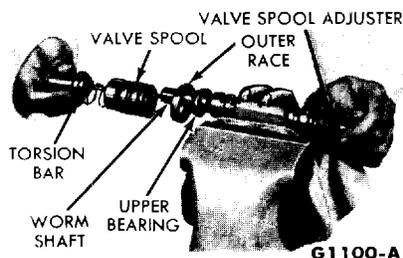

FIG. 14—Valve Spool Adjuster Removal
3. Remove the torsion bar, valve spool, actuator, seal, bearing and race from the worm shaft (Fig. 14). Tap the end of the torsion bar with a soft-faced hammer, if necessary. **The valve spool and the actuator**